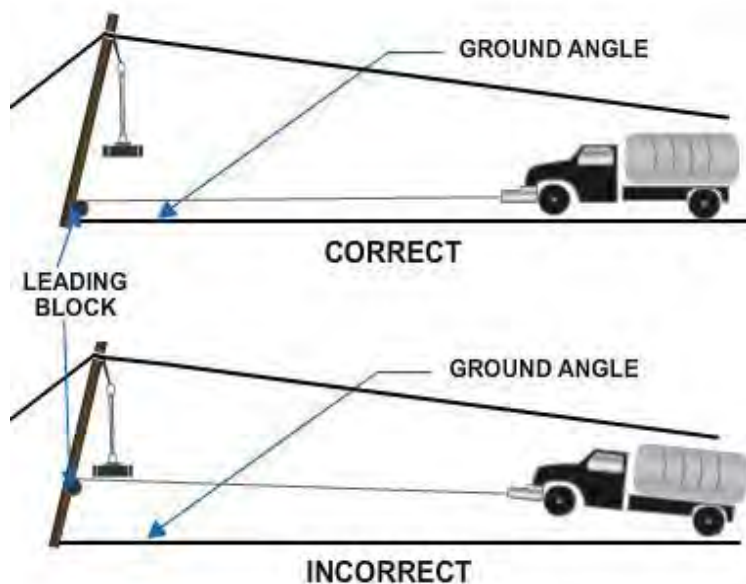

Figure 22-48 — Vehicle winch used for hoisting.
- The angle with the ground that the hoist line makes at the drum of the hoist: This angle is sometimes referred to as the ground angle (*Figure 22-48*).